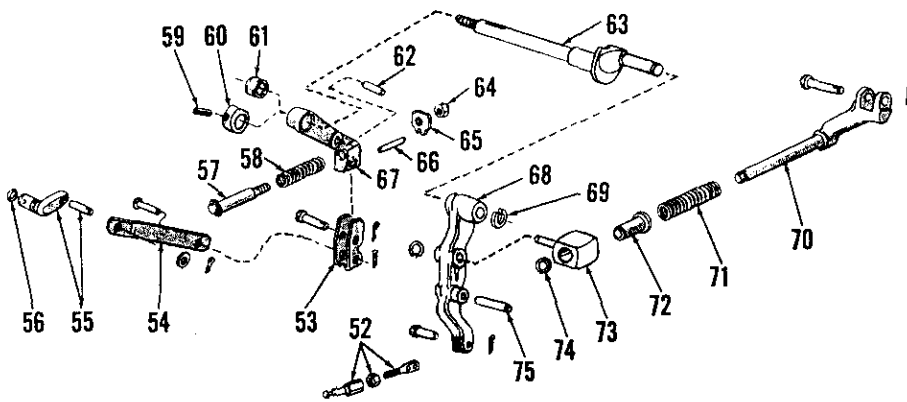

Fig. 388—Exploded view of hydraulic system control linkage. Spacer (61) is used on model 2000; cam (60) is used on models 3000 and 4000.
If necessary to adjust position control linkage, refer to Fig. 388, hold plate (65) from turning with a wrench while loosening nut (64); failure to hold plate from turning may cause pin (66) to be sheared or bent. With nut loosened,
Fig. 389—Flow control override adjuster and cam follower rides in bore in edge of rear axle center housing. Cam follower contacts cam (60—Fig. 388) on control lever shaft (63—Fig. 388). Cam action returns flow control valve to full flow position when lift control lever is in raise position. Note gap between adjuster and cam follower; place steel rule in gap while installing lift cover.